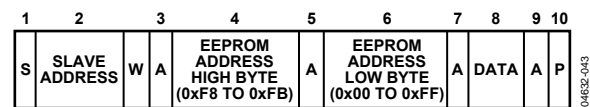

Figure 41. Single Byte Write to the EEPROM
- To write a single byte of data to the EEPROM. In this case, the command byte is the high byte of EEPROM Address 0xF8 to EEPROM Address 0xFB. The first data byte is the low byte of the EEPROM address, and the second data byte is the actual data, as shown in Figure 41.